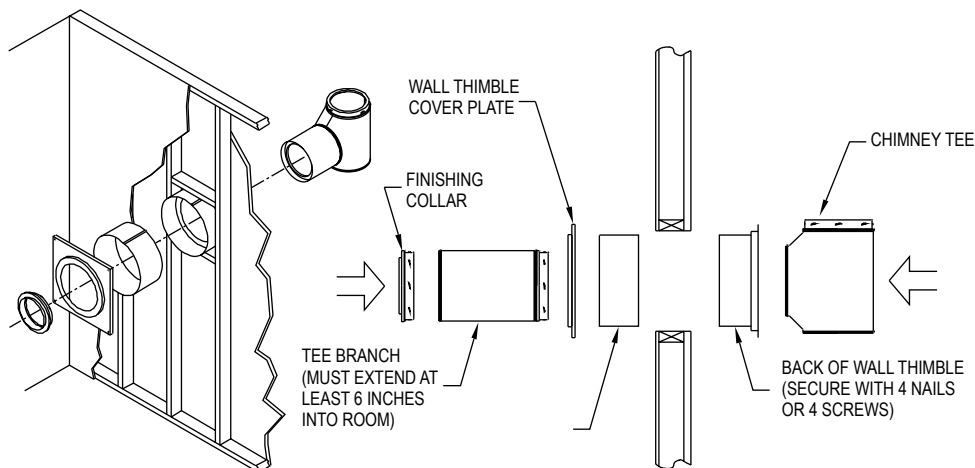
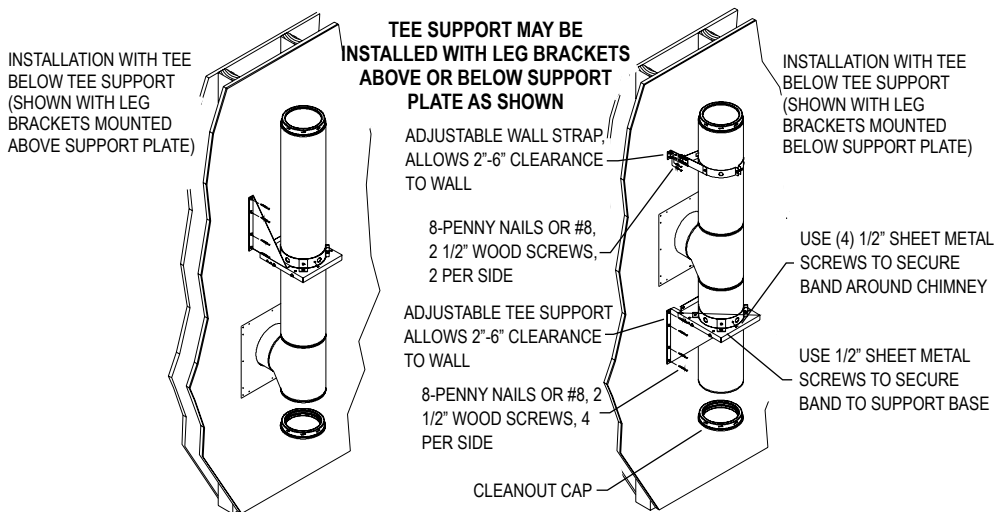

Figure 25
Figure 26
the cover plate is in position. Do not install cover plate at this time. When the shield extension is in position, secure it to the back portion of the shield using (4) sheet metal screws (**Fig 25**).
Figure 26. Important: Verify that Tee Support is level, and secure the leg brackets of the Tee Support to the wall using (4) #8, 2-1/2" screws for each side. Slide support base over leg brackets to adjust for desired clearance to wall, and secure by tightening bolts. (**Figs 26 & 27**).
Section: Twist lock the Tee onto a desired length of Chimney to be used as the cleanout section. Use only one chimney section (any length) to attach to bottom of the Tee. Tighten support band around chimney section at proper height to insure that Tee is centered through Wall Thimble (**Fig 25 & 26**). Use the 1/2" sheet metal screws provided to insure a tight connection between support band and chimney section. Connect support band to support base using the 1/2" sheet metal screws provided (**Fig 26**). Twist lock Tee Cap into bottom of Chimney Cleanout section.
6. Install Branch onto Tee: From inside the house, attach the Chimney Branch (a 12" or 18" Chimney section, depending on wall thickness, positioned horizontally used to pass through the wall) to the Tee by twist locking it clockwise. Important: The Chimney section used to penetrate through the wall must extend at least 6" into the room (**Fig 25 & 27**). Use high-temperature sealant (500°F) to seal between the Wall Thimble and the Chimney on the outer wall.